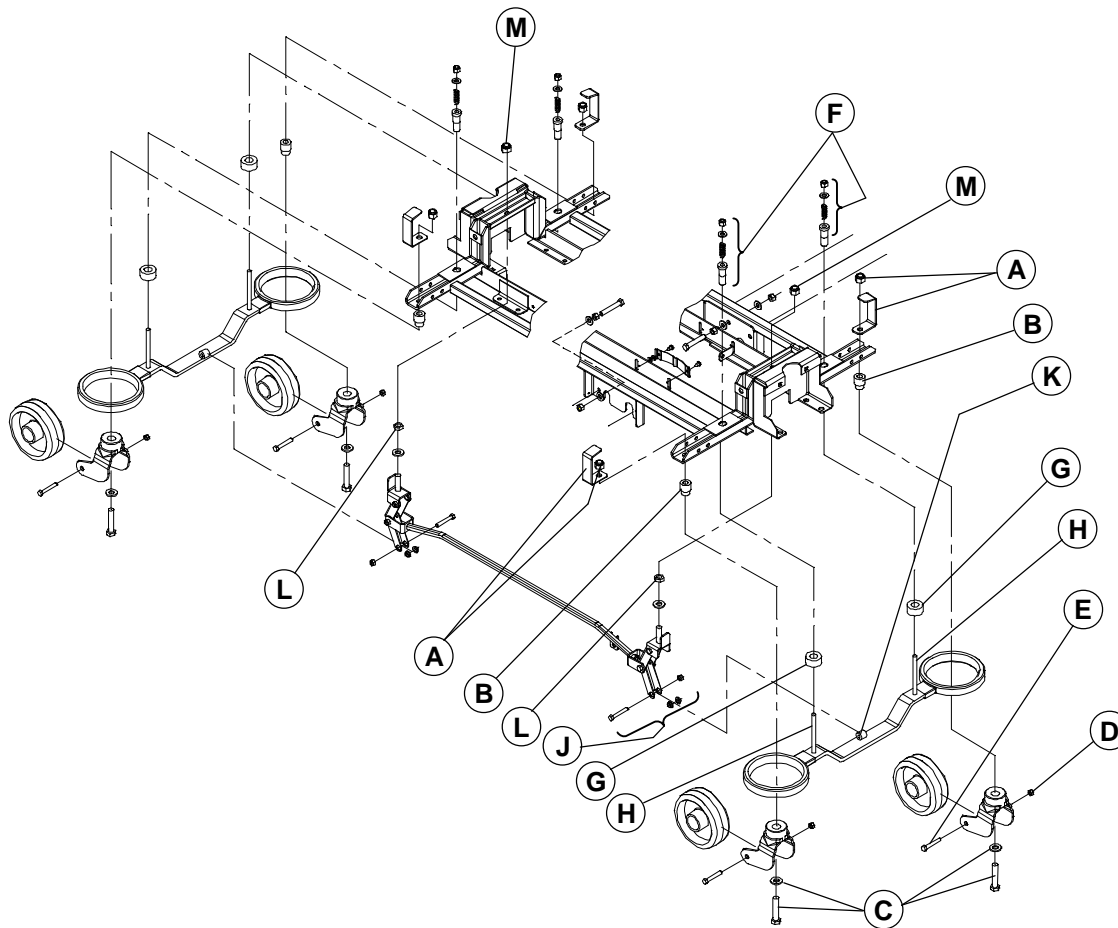

Figure 3.8
6. Using a 3/4" socket and ratchet and a 3/4" angled socket and ratchet, remove the locknut/base hood support (A, fig. 3.8, page 24), caster adjusting sockets (B, fig. 3.8, page 24) and washer/bolt (C, fig. 3.8, page 24), holding the caster assembly to the base frame. Remove the defective caster.
Reaching the caster assembly bottom bolt may be difficult without the adequate tool. Removing the wheel will clear access to this bolt. Use a 5/8" wrench and an 11/16" socket and ratchet to remove the nut (D, fig. 3.8, page 24) and bolt (E, fig. 3.8, page 24) holding the wheel to the caster horn and remove the wheel.